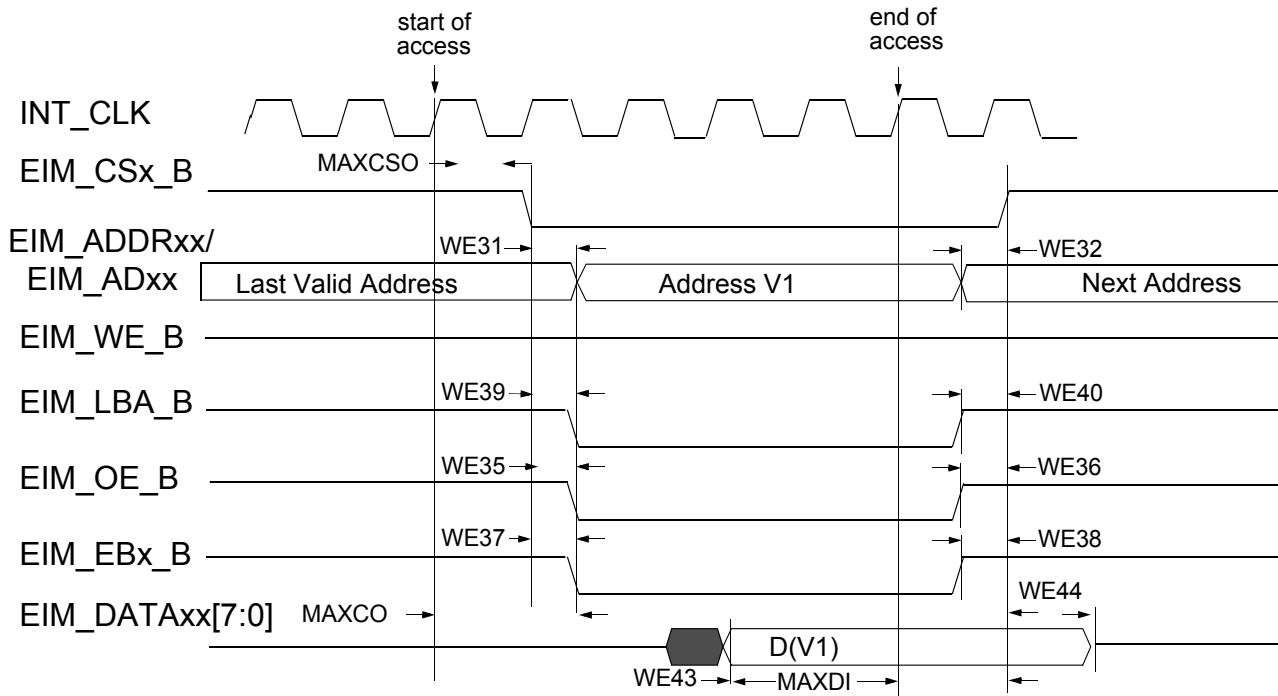
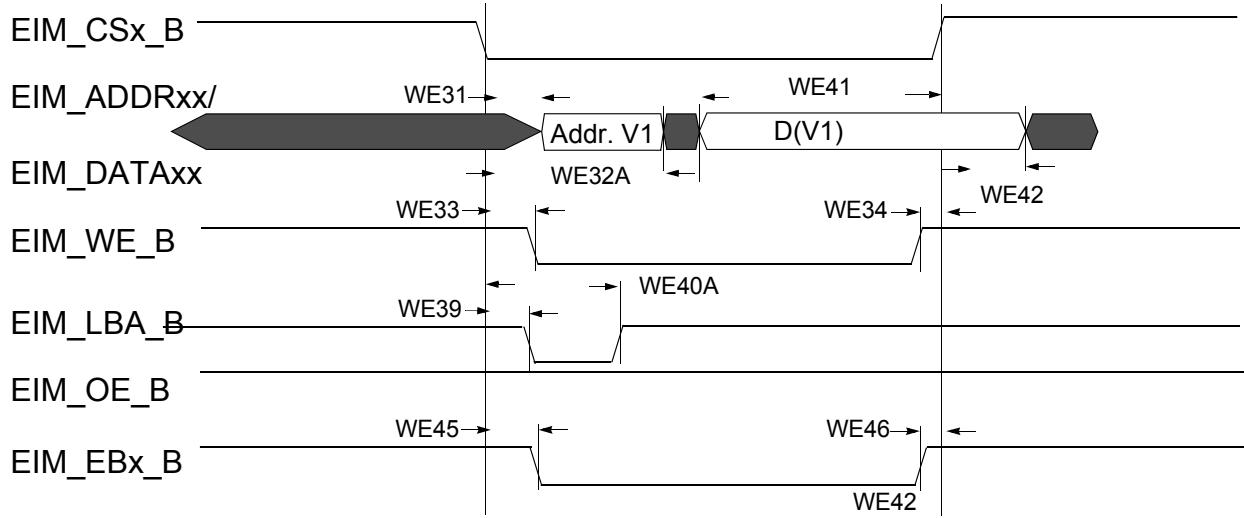
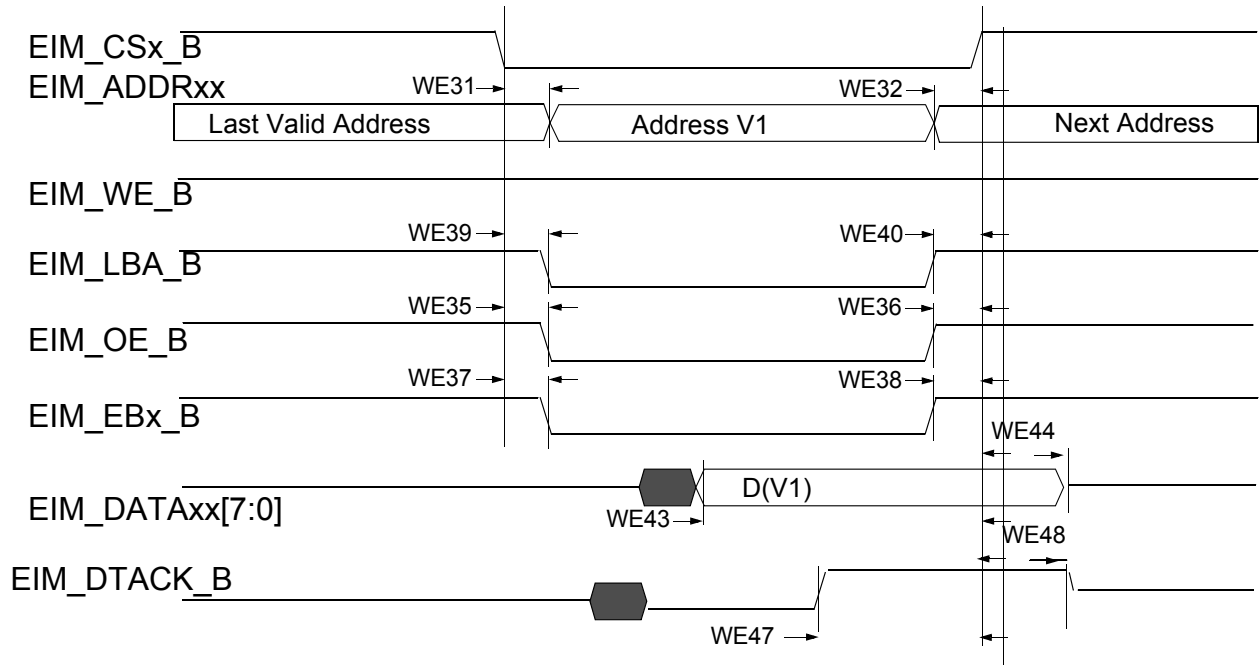

Figure 18. Asynchronous Memory Read Access (RWSC = 5)
Figure 21. Asynchronous A/D Muxed Write Access
Figure 22. DTACK Mode Read Access (DAP=0)
Figure 18 through Figure 22, and Table 43 help you determine timing parameters relative to the chip select (CS) state for asynchronous and DTACK EIM accesses with corresponding EIM bit fields and the timing parameters mentioned above.
Asynchronous read & write access length in cycles may vary from what is shown in Figure 18 through Figure 21 as RWSC, OEN and CSN is configured differently. See the *i.MX 6Solo/6DualLite Reference Manual (IMX6SDLRM)* for the EIM programming model.